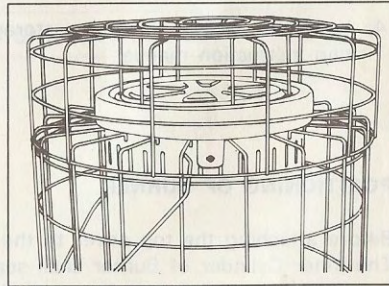

Fig. 5
- (4) Put the top guard and cover assembly onto casing. Before assemble the top guard and cover, make sure the burner is set inside cabinet (Fig. 5)